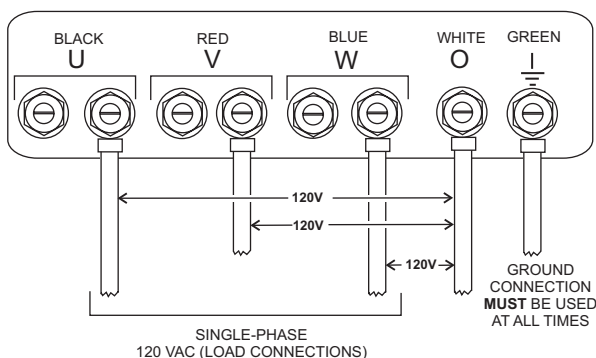

Figure 19. UVWO Terminal Lugs
3. Connect the load wires to the UVWO terminals as shown in Figure 19.